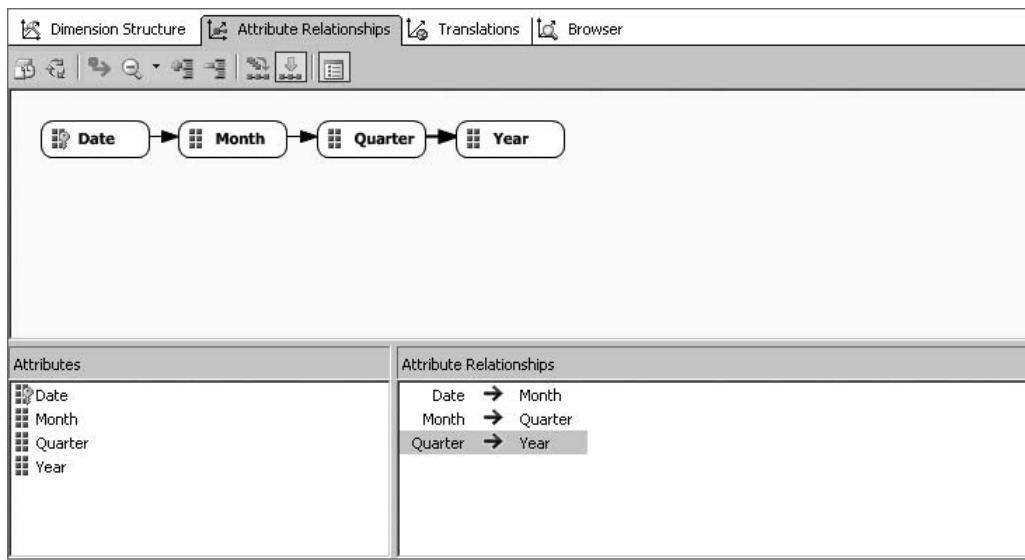

Figure 9-12 The Attribute Relationships tab
42. Right-click each of the relationship arrows and select Relationship Type | Rigid from the context menu. The Attribute Relationships tab should appear as shown in Figure 9-12.